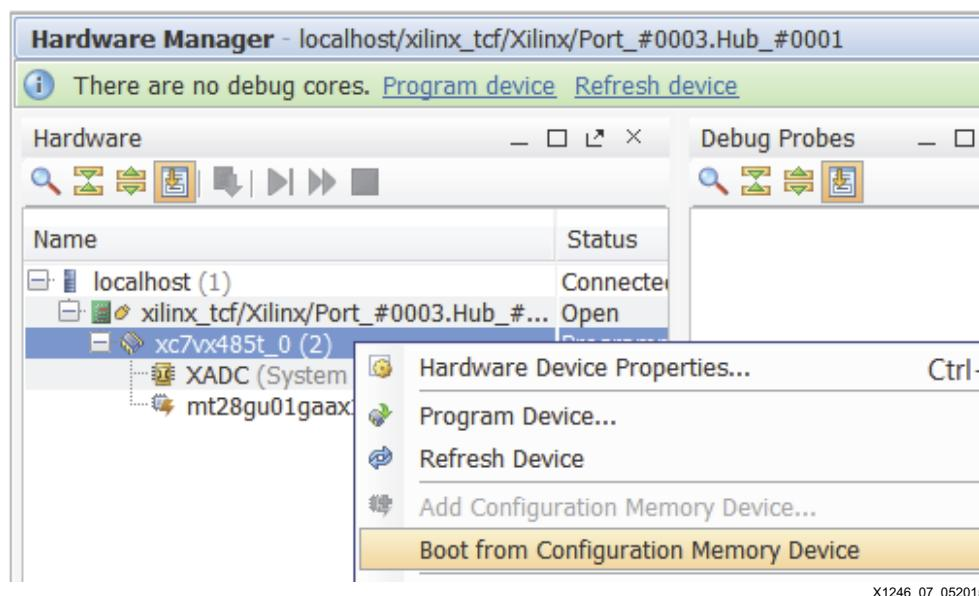

Figure 7: Boot from Configuration Memory Device
- Or, in the Vivado Hardware Manager GUI, right-click on the device and select the **Boot from Configuration Memory Device** option as shown in Figure 7.